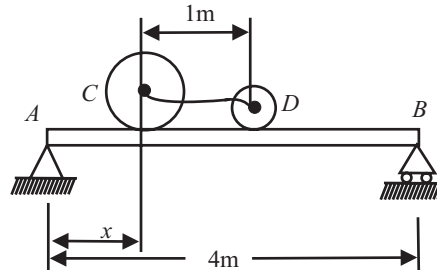

Fig. 8.22
- Q. 8:** Two weights C = 2000N and D = 1000N are located on a horizontal beam AB as shown in the fig 8.22. Find the distance of weight 'C' from support 'A' i.e., 'X' so that support reaction at A is twice that at B. (May-00-01)